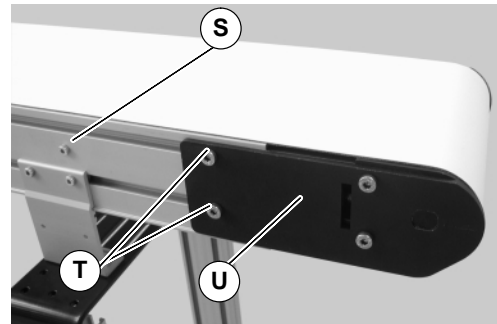
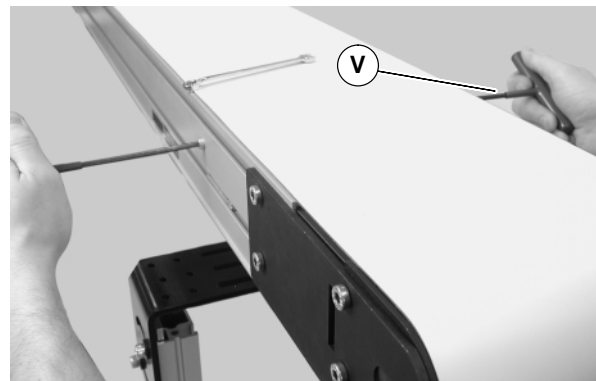

Figure 26
Figure 27
1. On tension end of the conveyor, identified by the pinion locking screw (S of Figure 26), loosen the two tail clamp bolts (T), on both sides of conveyor.
2. With 5mm hex wrench, hold pinion torque screw (V of Figure 27). Loosen the pinion locking screw (S of Figure 26) and turn the pinion torque screw (V) to extend head plate assembly.
4. After adjusting proper tensioning, tighten the pinion locking screw (S of Figure 26) to 69 in-lbs (7.8 N-m), and tighten tail clamp bolts (T of Figure 26) on both sides of conveyor to 146 in-lb (16.5 N-m).
1. Ensure tensioning racks are extended and touching the idler pulley headplates: loosen the pinion locking screw (S of Figure 26) and rotate the pinion torque screw (V of Figure 27) clockwise until contact with the head plate is made, then tighten the pinion locking screw (S) to 69 in-lbs (7.8 N-m)